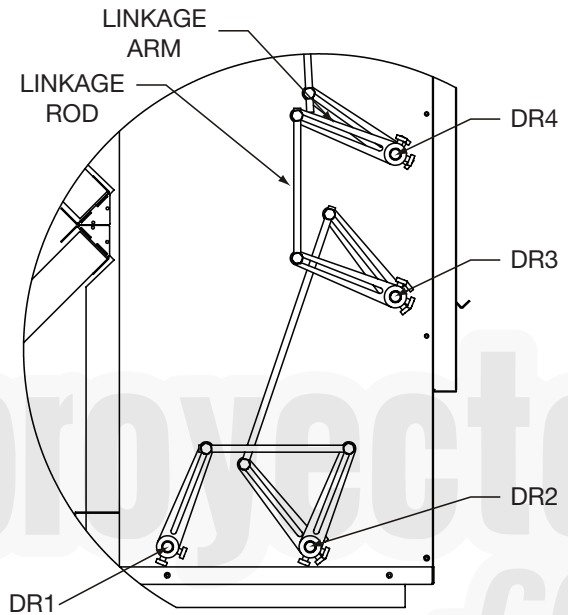

Fig. 36 — Area A Detailed View
1. Align actuator so that the actuator linkage arm will have enough clearance for full range of motion. Refer to Fig. 34-37. Align center line of the actuator as close to the centerline of DR4 as possible. See Fig. 36 and 37. Use at least 4 self-drilling screws to mount directly to top of unit.
2. Place linkage arm assembly (linkage arm and swivel nut arm) onto DR4 as shown in Fig. 36 and 37. Do not tighten to DR4 as adjustments need to be made.
3. Place linkage rod between actuator arm and linkage arm on DR4. See Fig. 36. Linkage rod may need to be cut to length. Ensure actuator arm and linkage arm are parallel.